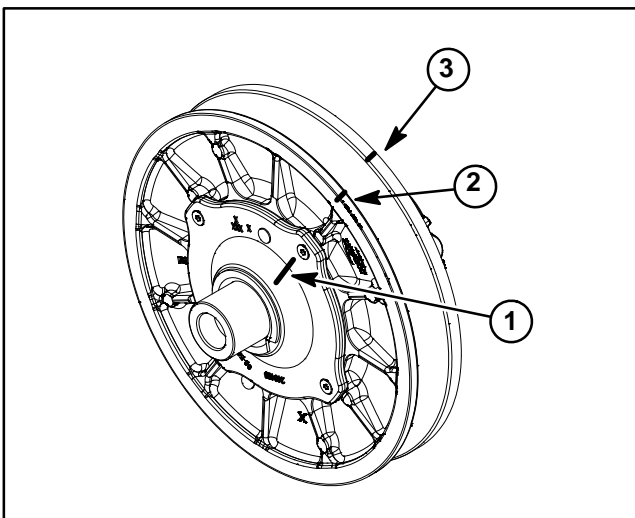

Figure 36
1. For clutch assembly purposes, use a marker to make alignment marks on the cam assembly, moveable sheave and stationary sheave (Fig. 36).
A. Remove four (4) torx screws (item 1) that secure cam assembly to moveable sheave.
IMPORTANT: When assembling the secondary clutch, check the marker lines made during clutch disassembly to make sure the cam assembly, moveable sheave and stationary sheave are properly aligned (Fig. 36).